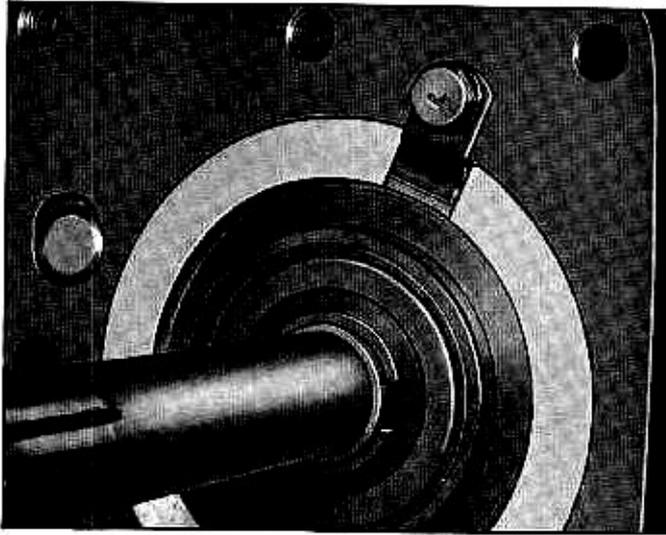

Fig. 2A—Rear Bearing, Retainer and Strap
5. Remove reverse idler gear retainer "E" ring and the rear bearing retainer strap and bolt. (Fig. 2A)
6. From the rear of the case, assemble the clutch gear and mainshaft into the case as an assembly and install the rear bearing retainer strap and bolt to case (fig. 2A).